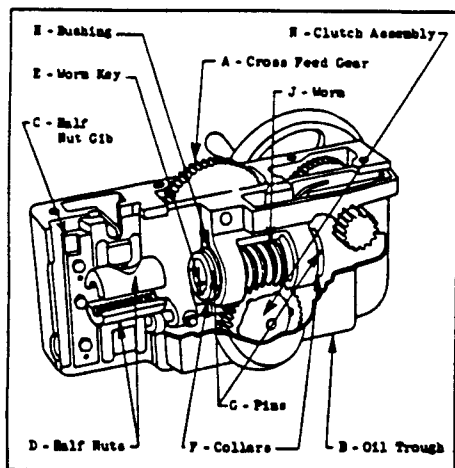
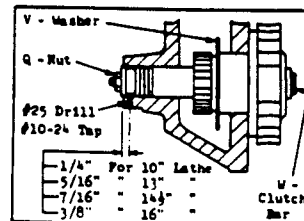
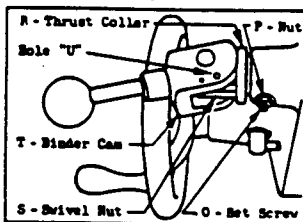
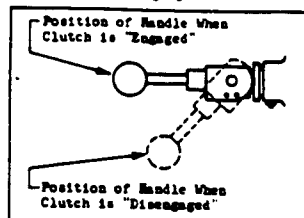

FIG. 1
FIG. 3
FIG. 4
FIG. 5
7. Remove apron from lathe by lifting up on the front of the saddle so the cross feed gear "A" (Fig. 1) in the apron will clear the saddle. Then slide apron off the lead screw at the tailstock end of the lathe but be careful not to bend lead screw.
8. Remove oil trough "B" half nut gib "C", half nuts "D" and key "E" (Fig. 1).
9. Mark the two collars "F" (Fig. 1) so when reassembling they can be placed in their original position. Then drive out the two pins at "G" and unscrew both collars "F".
10. Remove bushing "H" (Fig. 1) carefully to avoid tearing felt wick. Note how felt wick is wrapped around worm gear. With bushing remove draw wick through hole bored for bushing.
13. Remove clutch assembly "N" (Fig. 1) from back of apron. The oil distributing washer "V" (Fig. 3) on the clutch may have to be positioned to permit removing.
14. Drill and tap hole in bottom of apron hub as shown in Fig. 3, then file bottom of hub flat so nut can be locked against this surface.
15. Install screw "O" and nut "P" (Fig. 4) but do not let screw "O" protrude into bored hole.
16. Position oil distributing washer "V" (Fig. 3) inside apron and insert new clutch assembly (Fig. 3). Apply slight pressure on clutch bar "W" (Fig. 3) and tighten set screw "O" and nut "P" (Fig. 4).
17. Apply pressure on clutch bar "W" (Fig. 3), remove nut "Q" and commercial washers (discard nut and washers). Maintain pressure on clutch bar, install collar "R" and swivel nut "S" (Fig. 4). Screw the swivel nut on tight enough so the handle will lock itself against the thrust collar in the "engaged" position (Fig. 5). It is important to maintain pressure on clutch bar until swivel nut "S" is fastened as allowing it to back up more than 3/32" may cause the outside clutch plate to drop over the clutch sleeve and become distorted when tightened later.
18. Swing handle into a down or "disengaged" position (Fig. 5) and tighten swivel nut "S" (draw up as tight as possible) with Allen head wrench through hole shown at "U" (Fig. 4).
29. The clutch lever can be positioned (Fig. 5) by loosening set screw "O" and rotating the complete clutch assembly, then tighten set screw "O" and lock with nut "P". BEFORE TIGHTENING THE SET SCREW, HOWEVER, PULL SLIGHTLY ON THE CLUTCH LEVER ALLOWING THE CLUTCH MECHANISM TO COME FORWARD AS FAR AS POSSIBLE.